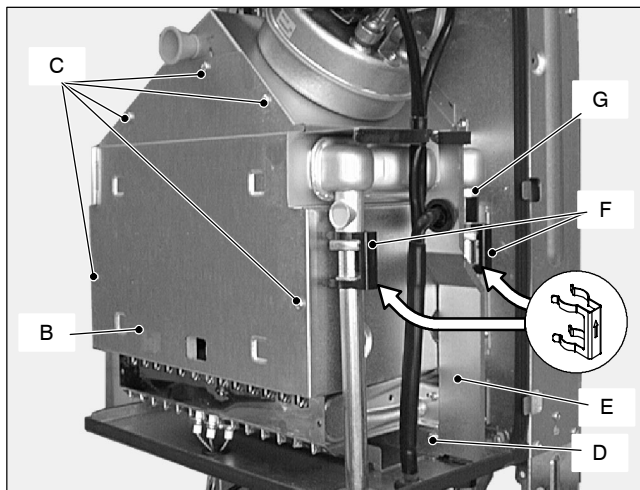

Fig. 11
- 3 Remove the combustion chamber lid **B** by unscrewing the screws **C** (Fig. 11).
- 9 Reassemble the boiler carrying out the removal operations in reverse order. **Fit the clips **F** with the arrow pointing upwards as illustrated in Fig. 11.**